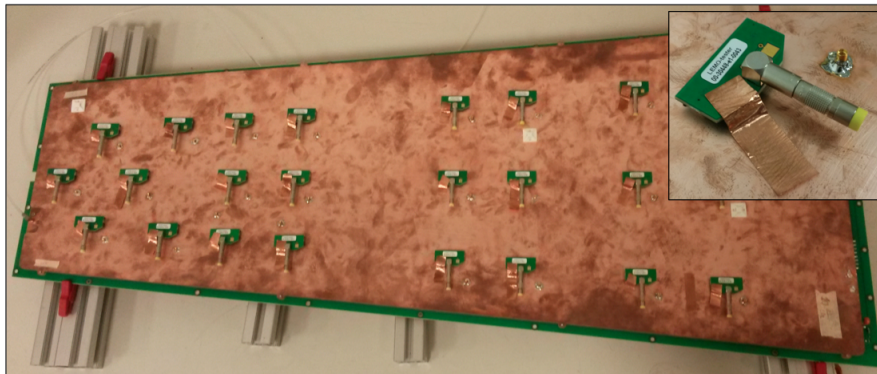

Figure 2.11: QC2 overview of the detector with the grounding plate and the 0 ohm terminations.
2. Connect the Panasonic-to-LEMO adapters with the $0\ \Omega$ terminations to all the readout sectors, as shown on Fig. 2.11.